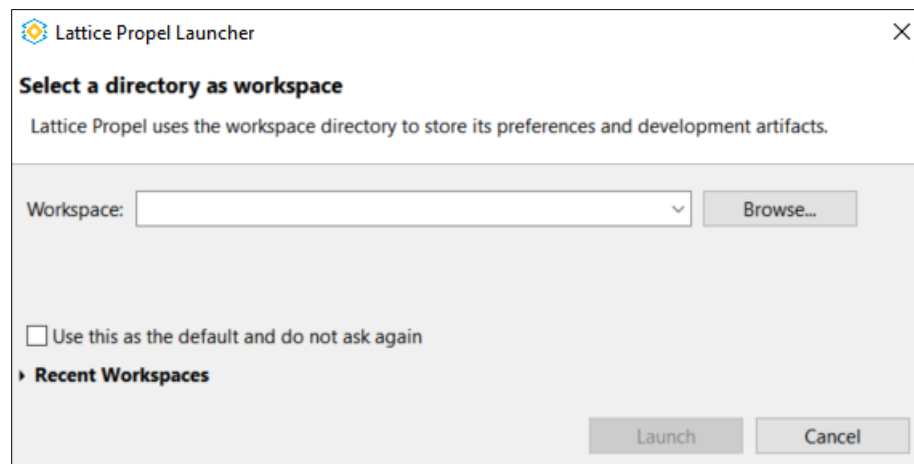

Figure 7.1. Propel SDK Launcher
- To select the workspace, browse to the created folder by clicking on the **Browse** button as shown in Figure 7.1 and click on **Launch** to create the workspace.